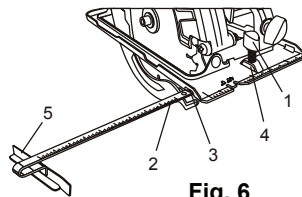

Fig. 6
Loosen the edge guide adjusting knob (1) (Fig. 6).
Set the rip guide foot at the required width (Fig. 6).